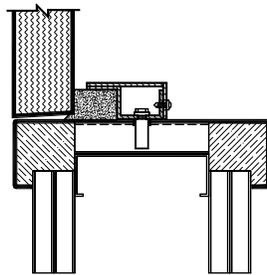

FIGURE 1
**C. Installation In New Metal/Wood Stud Walls (Fig. 1 and 2).** Remove the steel spreader at the bottom and place the frame between the floor tracks. Using vertical wood braces and horizontal wood spreaders at the top, middle and bottom of the frame, square up, level and set the frame. Cross string the frame to ensure the jambs are properly set and then anchor to the studs and floor using the wall and floor anchors provided. Double king studs should extend to the slab above and minimum 16 Ga. is recommended for metal studs.